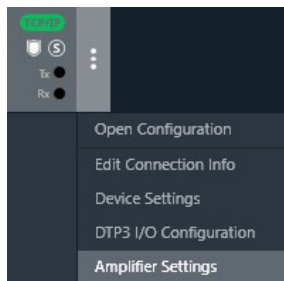

Figure 27. Amplifier Settings
1. Right click the open device and select **Amplifier Setting** (see figure 27).